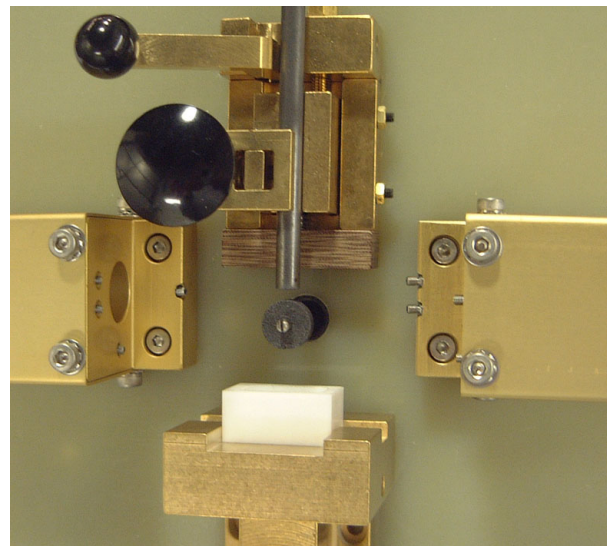

Figure 1-5, Sample Stand with Reusable Sample Holder in Place
The procedure is identical to the above disposable sample holder procedure except that a clean reusable sample holder is used to hold the oil or fuel for the analysis. The sample stand table also has a special cutout and groove to hold the sample holder in place and to align it properly for the analysis, Figure 1-5.
2. Install and position the reusable sample holder, Section 1.5.2, Figure 1-5. Raise the sample holder in position and with a disposable pipette, fill the sample holder with the fuel sample. Do not overfill the sample holder.